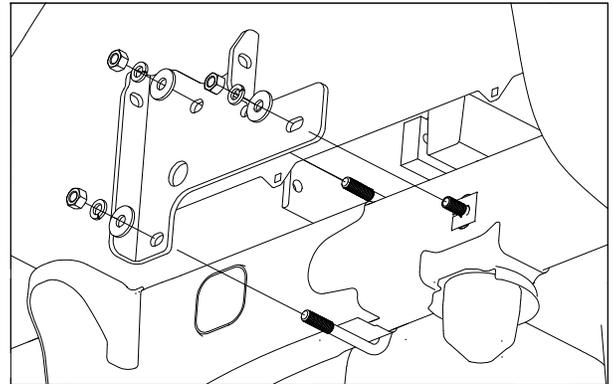
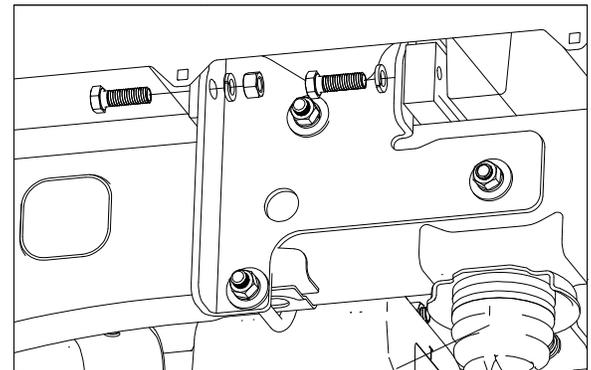

Figure C4: View looking at driver side wheel well.
Figure C5.
- 3. Install the side plates.** Pass the side plates over the U-bolts and stud placed in the frame. Secure each side plate with flat washers, lock washers, and nuts, see Figure C4. Attach the front flange of the side plate to the front angle cross member by placing a 1/2" X 1-1/2" bolt through the front cross member, then secure to the side plate with a lock washer and nut. Next, attach the side plate to the rear bar by placing a 1/2" X 1-1/2" bolt with a lock washer through the side plate flange and threading it into the rear cross member, see Figure C5. Leave these bolted connections loose for the time being.